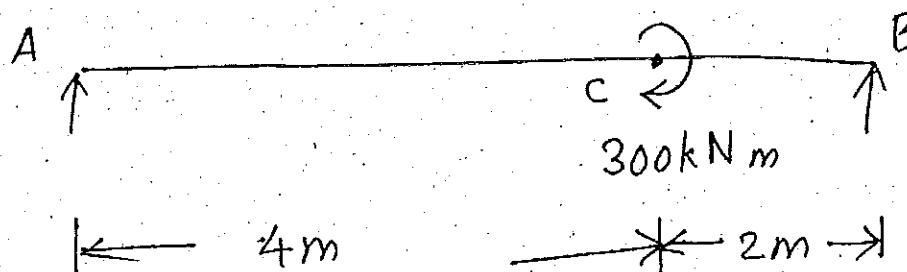

Fig. Q.13(b)
- (b) Determine the deflection at the point 'C' and maximum deflection for the beam given in Fig. Q.13(b).  $E = 2 \times 10^5$  N/mm $^2$ ,  $I = 2 \times 10^8$  mm $^4$ .